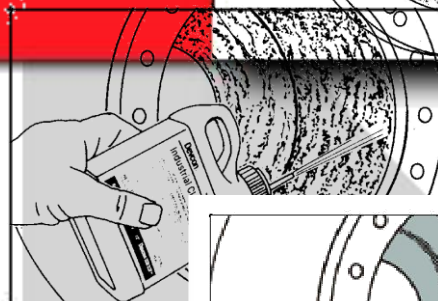

Figure 2
2. Thoroughly degrease the area to remove any residual abrasive medium lodged in pore of material (Figure 2).